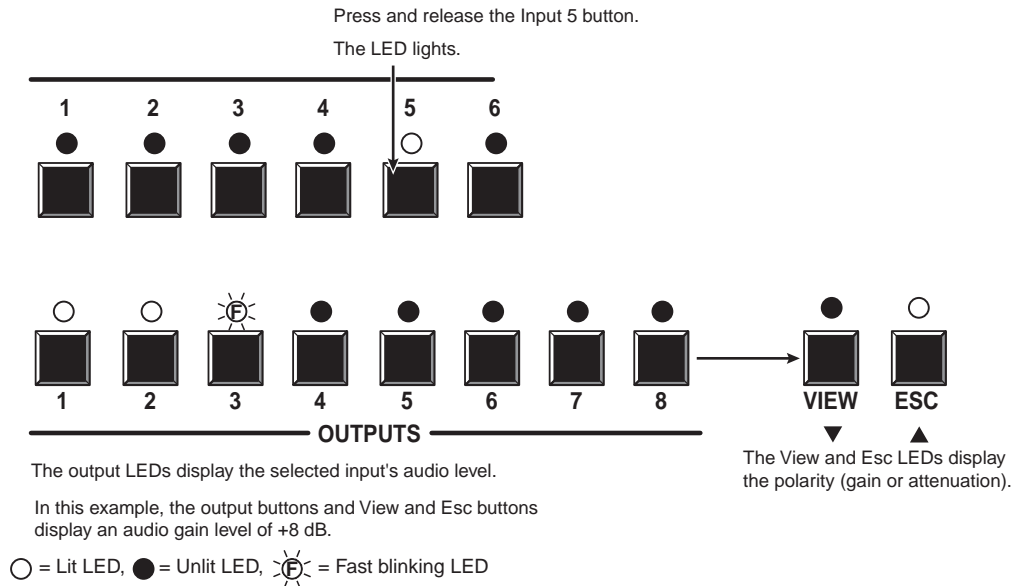
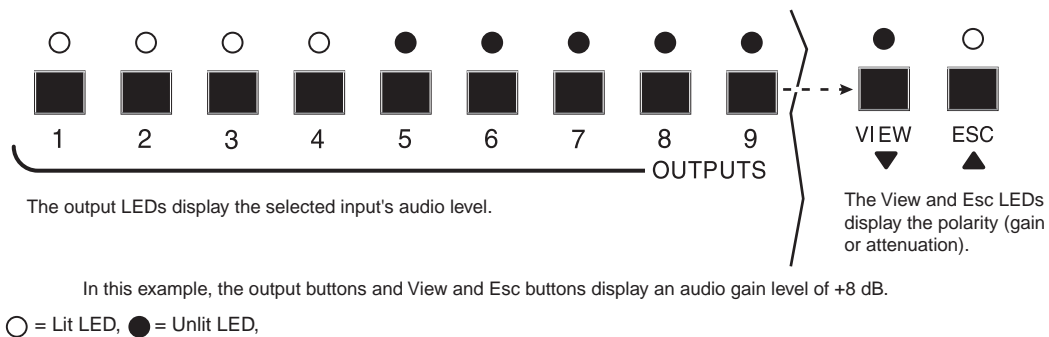
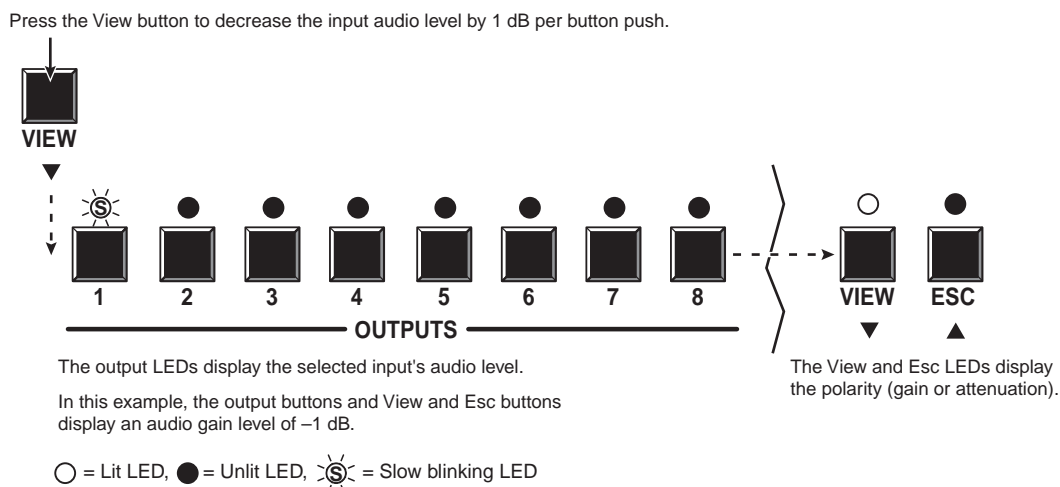
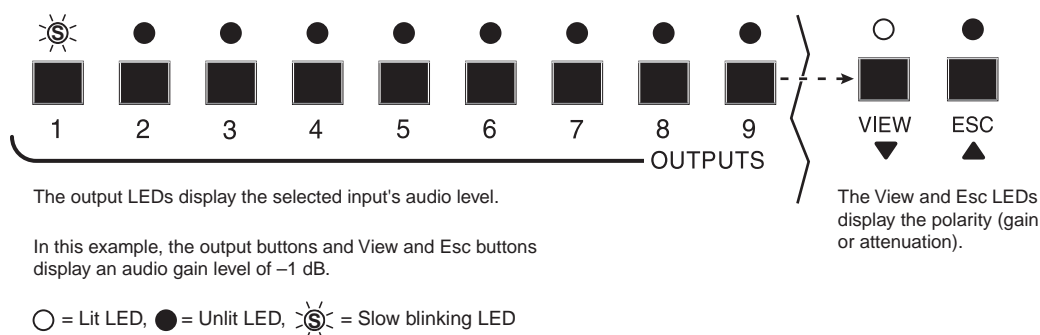

Figure 3-44 — Select an input and level display on an 8-output-LED switcher
Figure 3-45 — Level display on a 16-output-LED switcher
Figure 3-46 — Adjust the input audio level
Figure 3-47 — Level display on a 16-output-LED switcher
For this reason, figure 3-45 and figure 3-47 show the indications displayed on a switcher with 16 output buttons without duplicating all of the actions shown in figure 3-44 and figure 3-46, which show switchers with 8 output buttons.
3. Press and release the input 5 button (figure 3-44).
NOTE Figure 3-44 shows the current level (+8 dB) displayed on an 8-output-LED switcher, such as a CrossPoint 300 128 HVA.
Figure 3-45 shows the same level (+8 dB) as in figure 3-44, but displayed on a 16-output-LED switcher, such as a CrossPoint 300 816 HVA.
4. Press and release the View (▼) button once (figure 3-46) to decrease the input audio level by 1 dB.
Press and release the View (▼) button several more times (figure 3-46) to decrease the input audio level by 1 dB per button push. Note the output LED indication changes that occur each time the View (▼) button is pressed and released.
Figure 3-46 shows the result of pressing the View (▼) button a total of 9 times. Note that the View LED is now lit to indicate a negative level.
NOTE Figure 3-46 shows the adjusted level (-1 dB) displayed on an 8-output-LED switcher, such as a CrossPoint 300 84 HVA.
Figure 3-47 shows the same level (-1 dB) as in figure 3-46, but displayed on a 16-output-LED switcher, such as a CrossPoint 300 816 HVA.